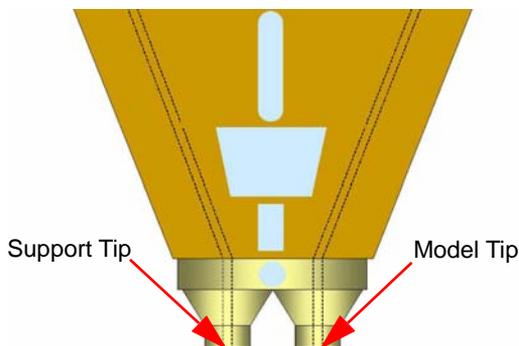

Figure 13: Close-up of extrusion tips
10. Watch the extrusion tips (see Figure 13 on page 37) to see if material extrudes (purges) after loading. The panel will then display **Did Material Purge?**